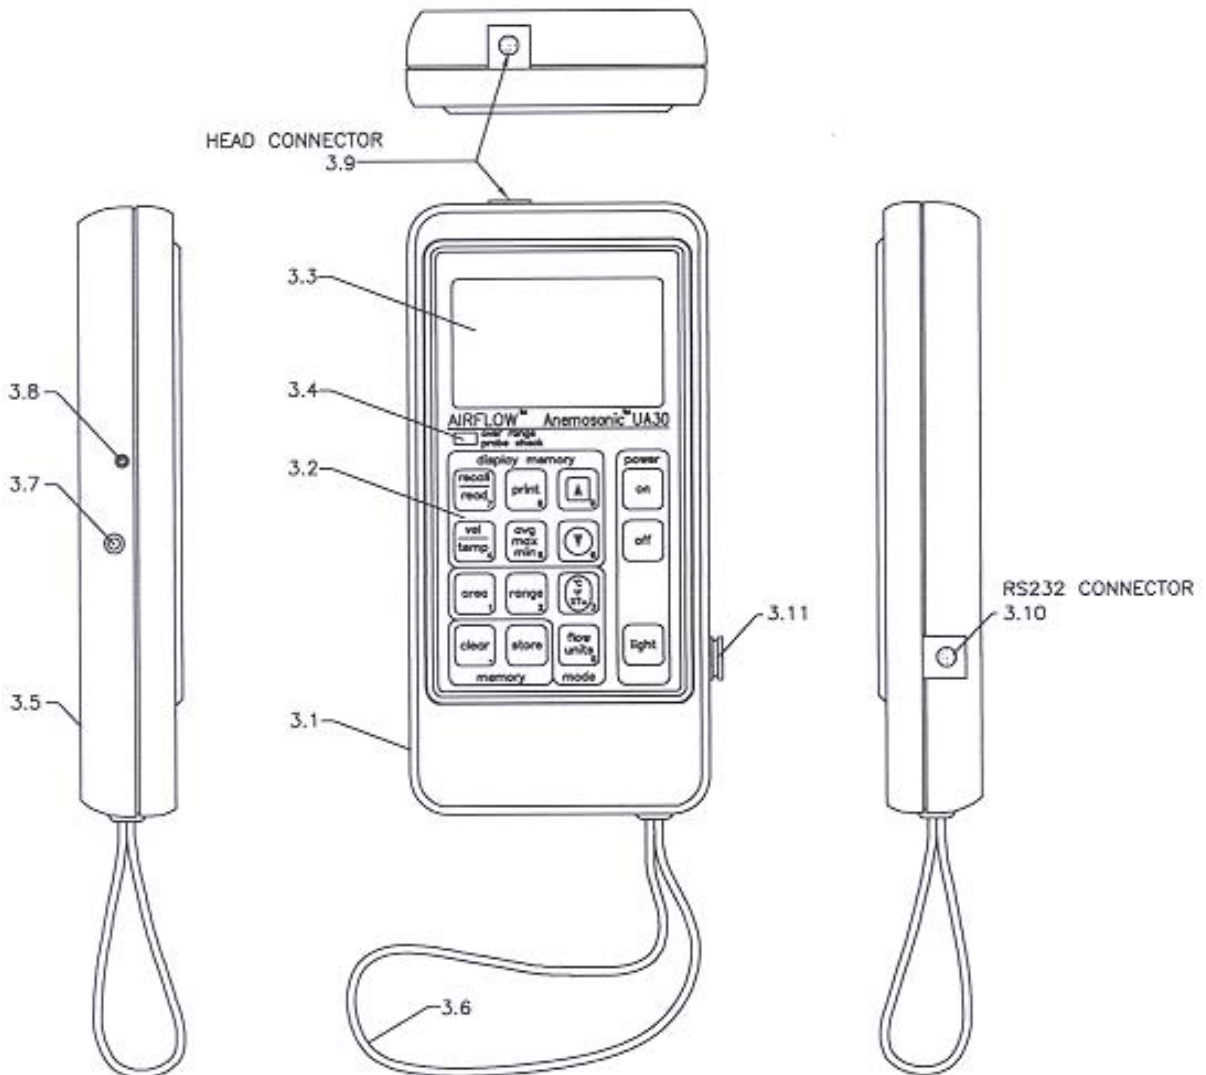

Fig 2 UA30 Instrument
- 2.3 Battery eliminator:** this connects via the 2.5mm jack socket (item ref. 3.8 FIG.2). Supply requirements are 6 volt d.c. at a minimum current of 100mA with the jack tip being supply + ve. Airflow can supply a suitable unit under Part No's 9020897 (for 3-pin UK version) or 9020855 (for 2-pin European version).
3.1 DESCRIPTION OF THE INSTRUMENT (refer to diagram FIG.2).
The 8-pin mini-DIN plug connects to its mating socket on the **top of handheld instrument; item 3.9 shown on Fig.2.** Ensure that the pins are correctly aligned with the socket pins before inserting.
- (1) Connect the Ultrasonic Anemometer Head to its socket **on the top of the hand-held instrument (FIG 2 item 3.9). Ensure that the plug is orientated correctly before inserting.**